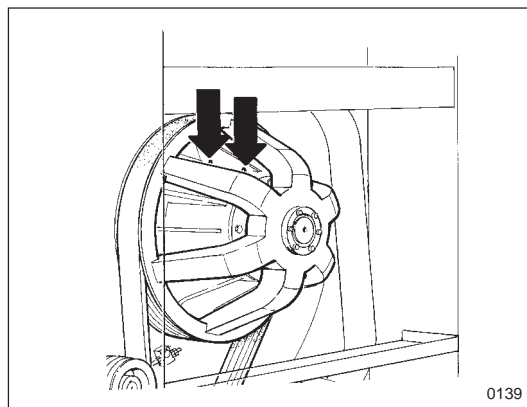

Figure 5.
3. Lubricate the drum shaft with a force-feed grease gun (two grease fittings, figure 5), 10-15 pump strokes for each.
- turn the release arm, figure 5, to the disengaged position
Fig. 5 Relay K6 controls the air valve of the drain valve. The drain valve is open when the motor power supply is off. When the power supply comes on, the valve is closed, but is opened again by spring force when the motor power supply goes off again.